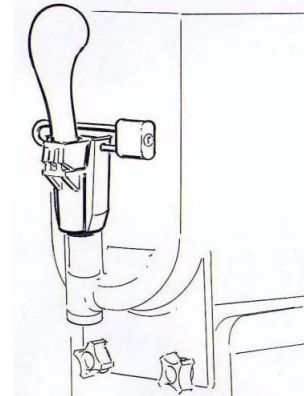

FIGURE33
2. Attach a padlock in hole provided on the locking clip (see Figure 33).